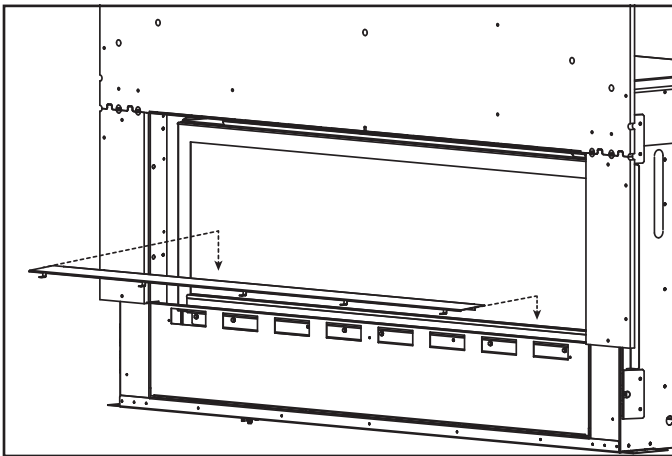

Figure 10. Install Bottom Glass Shield
7. Install bottom glass shield between glass and glass frame. See Figure 10.